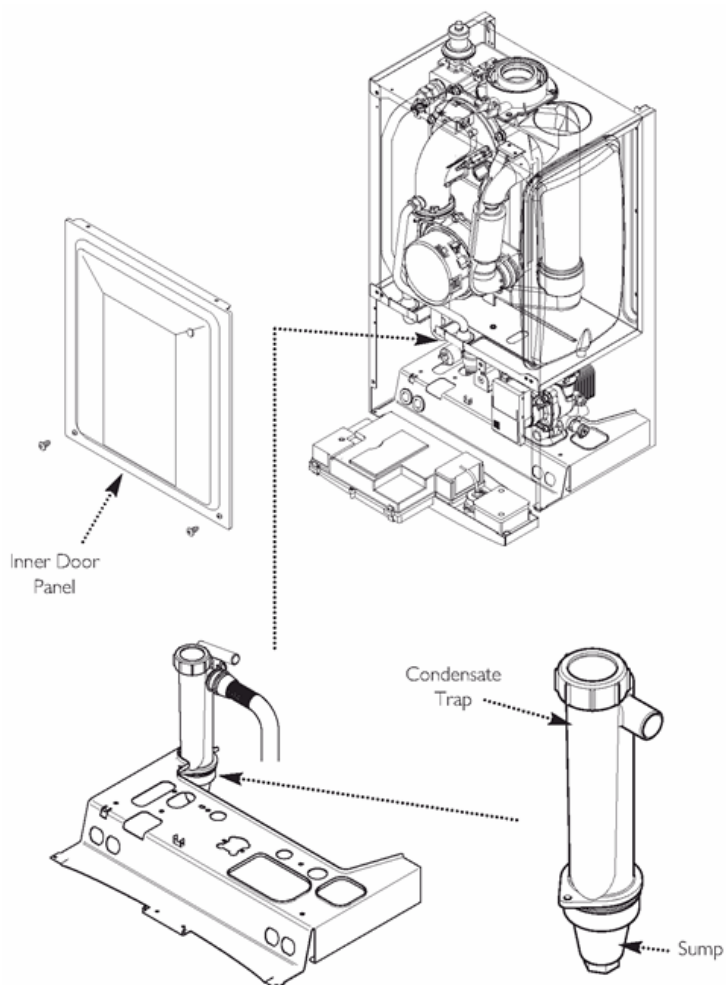

Fig. 47 & Fig. 48
4. Remove the screws securing the inner door panel. Lift the panel slightly to disengage it from the studs on top of the case (Fig. 47).